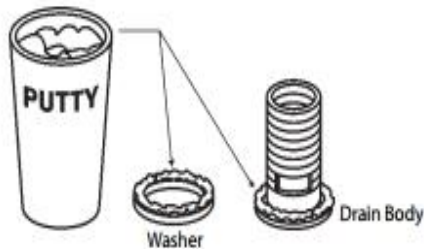

figure 9
6. Apply a bead of clear silicone or plumbers putty around the Drain body and pass it through the drain hole (figure 9).
Washer and slide it over the bottom of the Drain Body (figure 9).